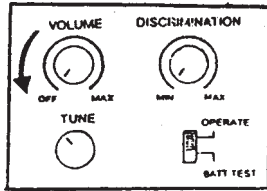

Figure 4
1. If the Metal Detector is on, turn the volume on the control housing to **OFF** (see Figure 4).